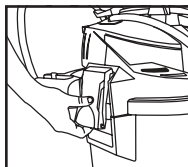

FIGURE 6
8. Replace the tank cover. Lift latches up and place in the grooves on the cover as shown in **FIGURE 6.** Push in on bottom of latches to lock in place.